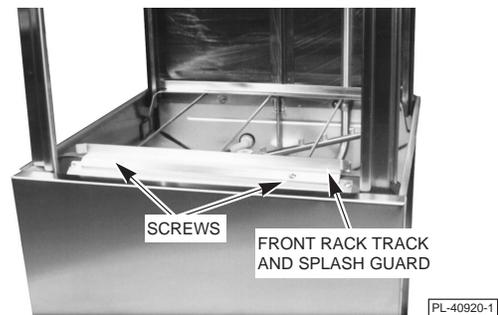

Fig. 1
1. Remove the two screws and nuts that secure the front rack track and splash guard (Fig. 1) and remove the front rack track and splash guard. Reassemble the front rack track and splash guard by replacing the two screws and nuts in the same mounting holes from which they were removed.